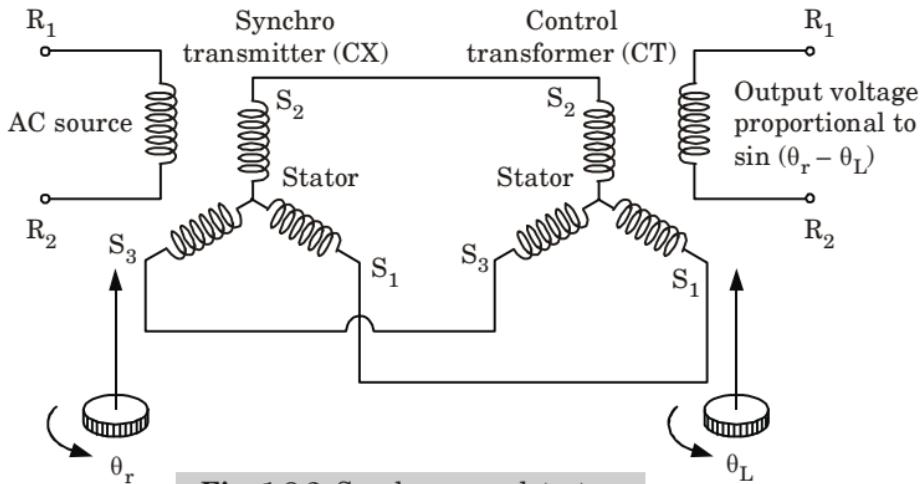

Fig. 1.8.2. Synchro error detector.
2. The schematic diagram of synchro-pair error detector is shown in Fig. 1.8.2.